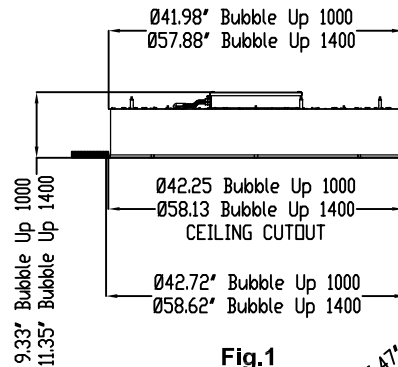

Fig.1
1. Create Ø42.25 inches cut out into the ceiling surface for Bubble Up 1000 or Ø58.13 inches for Bubble Up 1400. Fig.1